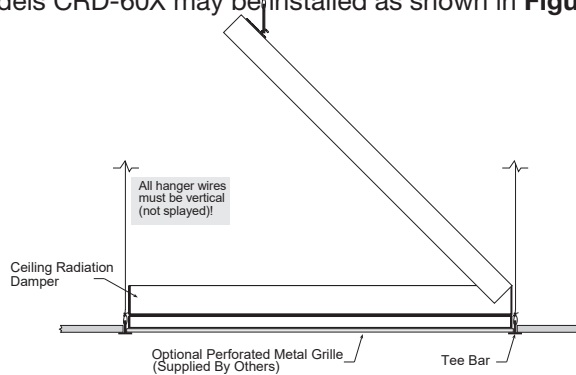

Figure 3
- Models CRD-1, CRD-1LP, CRD-3 and CRD-60 may be installed as shown in **Figure 3** (Model CRD-3 illustrated).